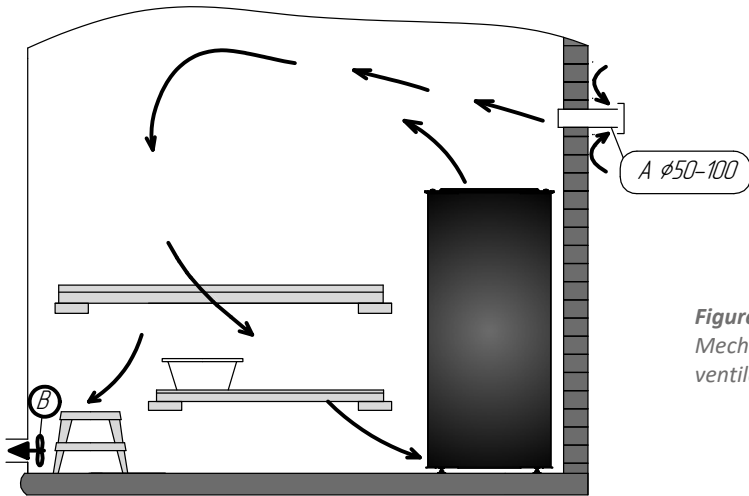

Figure 2.
2) Mechanical induced draft ventilation (Fig. 2):